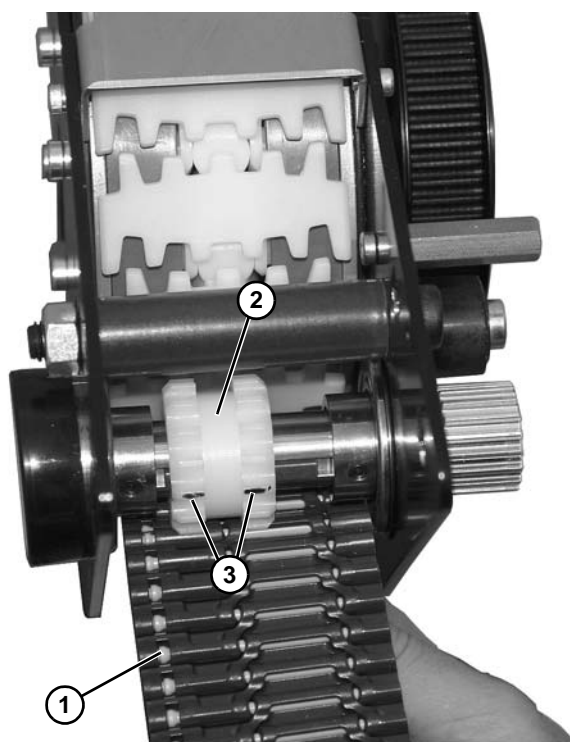

Figure 172
3. Raise belt (**Figure 172, item 1**) into position, and move gear (**Figure 172, item 2**) so that cogs line up with belt, as shown.
4. Tighten sprocket with set screws (**Figure 172, item 3**) in proper alignment with belt (**Figure 172, item 1**).